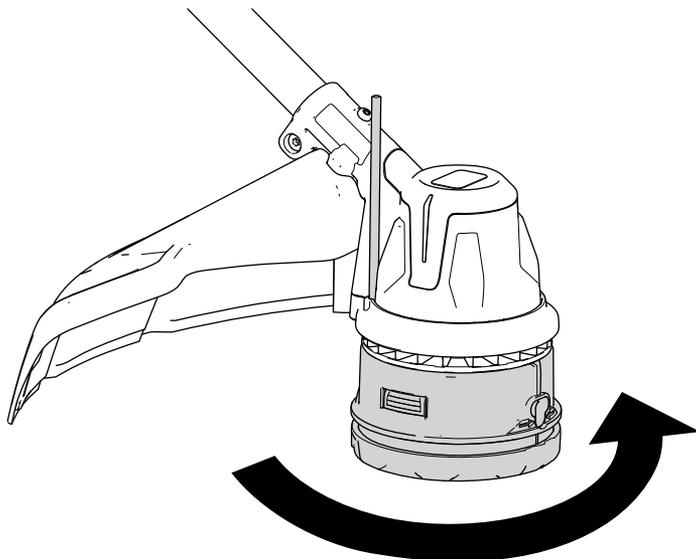

Figure 19
3. With a tool securing the trimmer head, rotate the trimmer head counterclockwise to remove it from the threaded gearcase post (Figure 19).